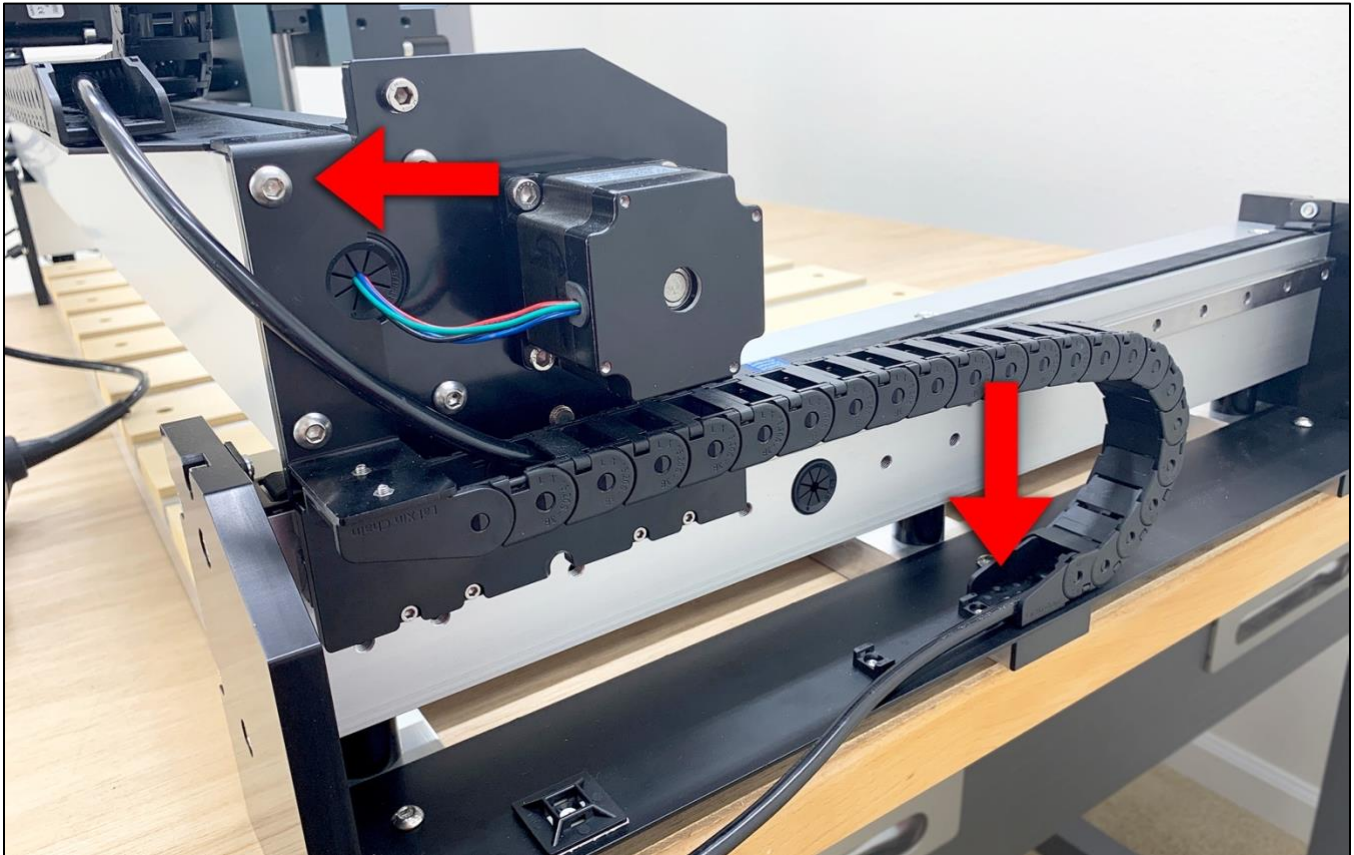

Figure 4
7. Remove the Y-Axis router drag chain. See **Fig. 4**.